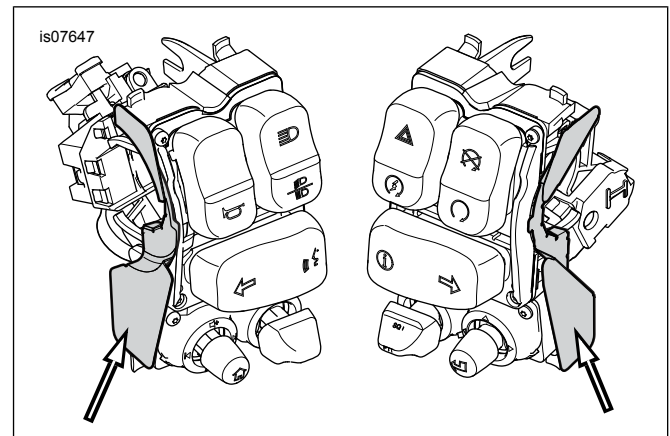

Figure 1. Verify That Shield Is In Correct Position
3. Verify that the shield is in correct position on the outboard side of the switch module. See Figure 1.